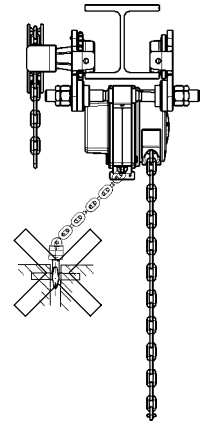

Fig. 4
- Avoid side pull, i. e. side load on housing or bottom block (Fig. 4).